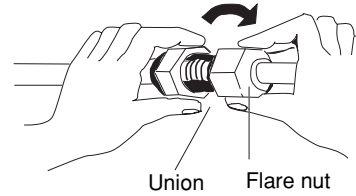

Fig. 7-5
- (3) For proper connection, align the union tube and flare tube straight with each other, then screw on the flare nut lightly at first to obtain a smooth match. (Fig. 7-5)